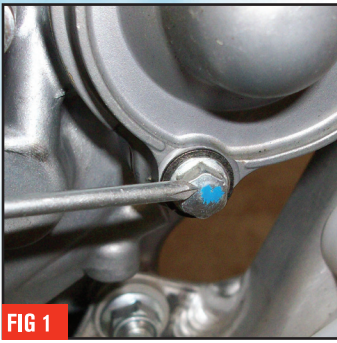

FIG 1
**2** Drain the coolant by using an 8mm socket or t-handle to remove the drain bolt on the water pump cover. **(Figure 1)** Remove the radiator cap to speed up the draining process.